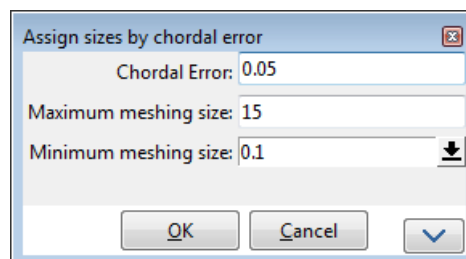

Figure 32. Defining unstructured size by chordal error
- 3 . Select **Mesh->Unstructured->Sizes by Chordal error** and set the values as shown in Figure 32.